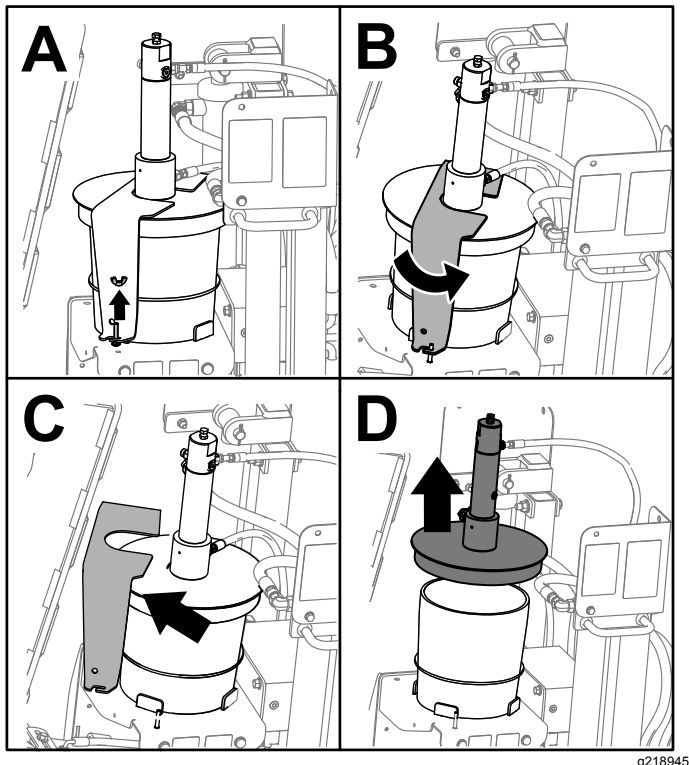

Figure 72
2. Loosen the wing nuts securing the cover straps to the machine (Box A of Figure 72).
3. Rotate the cover and pull the cover straps off the retaining bolts (Box B and C of Figure 72).
4. Lift the cover assembly off and out of the empty thread-joint-compound bucket (Box D of Figure 72).